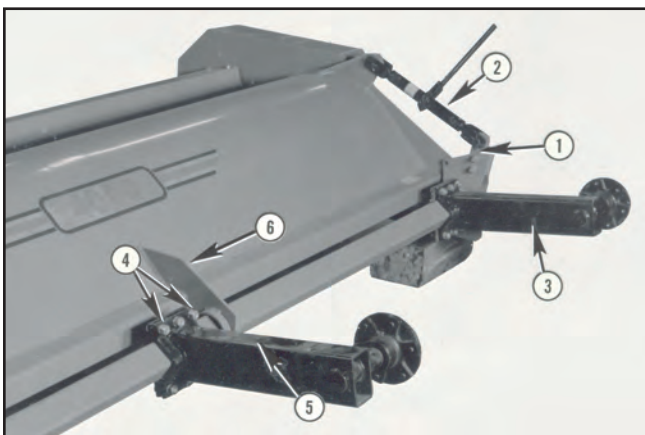

FIGURE 106
Leave 5/8" rockshaft lockup bolt (1) in place and install a ratchet jack accessory (2) at each end on 18' and 20' units, or install 1 ratchet jack in the center on 12' and 15' units. See Figure 106.
Each wheel leg bracket (3) is clamped to the rockshaft with 6 5/8" bolts, lockwashers and nuts (4). These, sheaves, backwrap idlers and gearbox bolts, are the only hardware retained with lockwashers. Install wheel legs in their approximate transverse positions; however, do not torque up their bolts. See Figure 106.